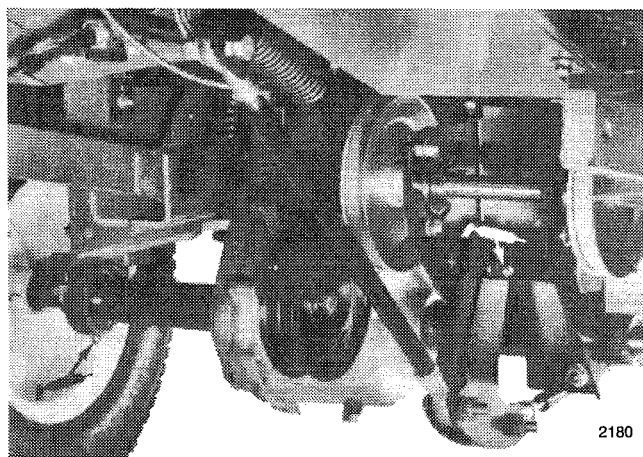

Figure 22
3. Lubricate the axle bearings (Fig. 22).